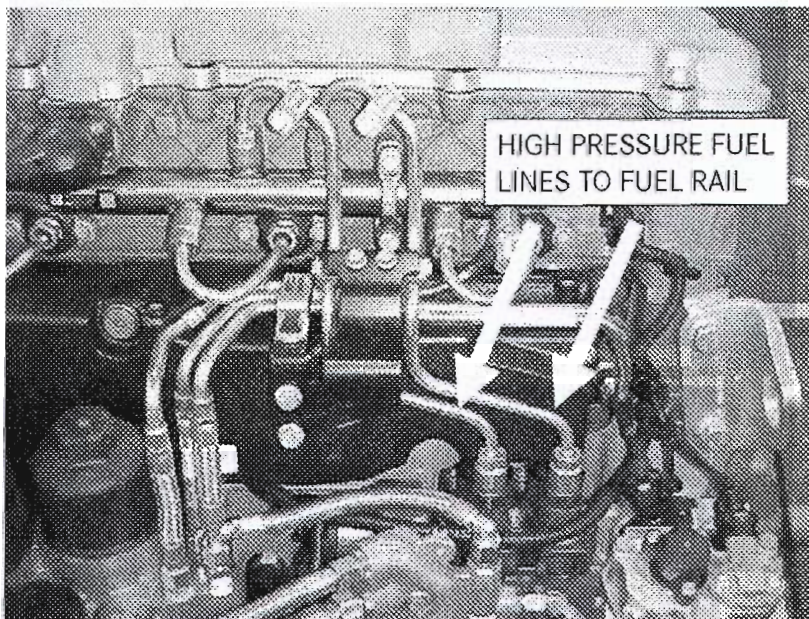

Figure 8 – High Pressure Fuel Lines To Fuel Rail
8. Remove the two high pressure fuel lines from the fuel pump to the fuel rail. Install the green caps into the rail to keep dirt and debris from entering the fuel system. See Figure 8.